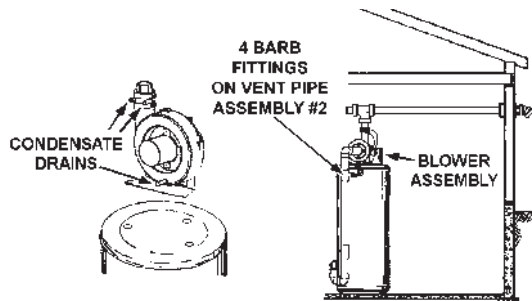
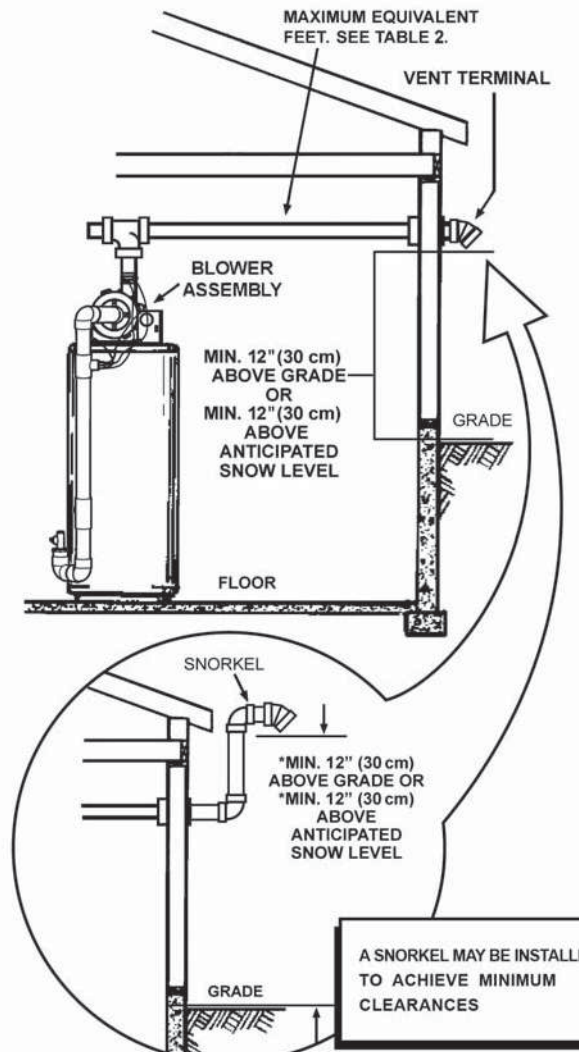
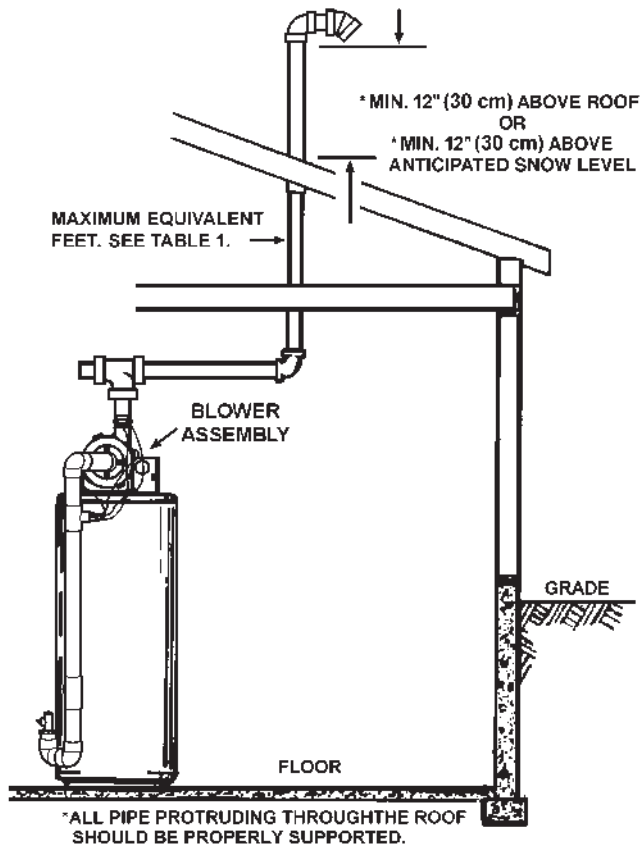

Figure 17. Blower Assembly Condensate Drains and Barb Fittings
Figure 19. Sidewall Vent Installation Snow Clearances
Figure 20. Through-the-Roof Vent Installation
Note: There will be some installations where condensate will be formed in the horizontal runs of the vent system. This condensate will run into the condensate boot attached to the blower and out the fitting. The water heater is shipped with condensate hose that attaches to the fitting on the condensate boot. No other Tee or fitting is required. See *Figure 17* (page 21), *Figure 19* (page 22), and *Figure 20* (page 23).
The blower discharge adapter is made to accept only straight sections of 2" pipe. To start, a minimum of 2 inches (5.1 cm) of 2" pipe must be attached to the blower discharge. See *Figure 17* (page 21).
The first step is to determine where the vent pipe will terminate. See *Figure 26* (page 27), *Figure 19* (page 22), and *Figure 20* (page 23). The vent may terminate through a sidewall as shown in *Figure 19* (page 22) or through the roof as shown in *Figure 20* (page 23).
3. Condensate drains from three locations on blower assembly. See *Figure 17*. One flexible hose runs from bottom of blower housing; two run from the ports of rubber connector at the outlet of blower. All these three condensate hoses are connected to barb fittings at vent pipe assembly #2. The hose from bottom of blower housing is clamped by two clamps and the two hoses from rubber connector are harnessed by another clamp. Make sure there is no kink or twist.
If necessary to achieve the 12" minimum clearance above the highest anticipated snow level, install a snorkel as shown in bottom portion of *Figure 20*.
Note: Vent Termination must extend a minimum of 12 inches (30 cm) above roof or 12 inches (30 cm) above the anticipated snow level to prevent blockage of the vent termination, as shown in Figure 19 and Figure 20 (page 22).